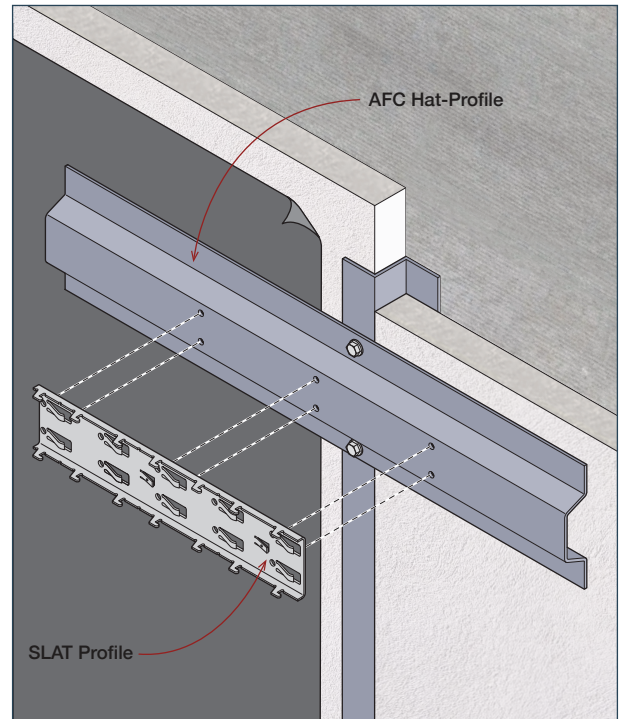

FIG. V3
- b. For structures with exterior insulation, follow the insulation manufacturer's installation instructions. Z-Profiles, the same depth as the exterior insulation, can be attached to the studs. Then, AFC supplied Hat-profiles (6061-T6 Black Anodized) can then be fastened to these Z-Profiles. (FIG. V3 & V4)
- Hat-Profile Attachment (FIG. V3 & V4), profiles run horizontally): Use a stainless steel 4.8mm x 19mm self-tapping screw (By AFC)